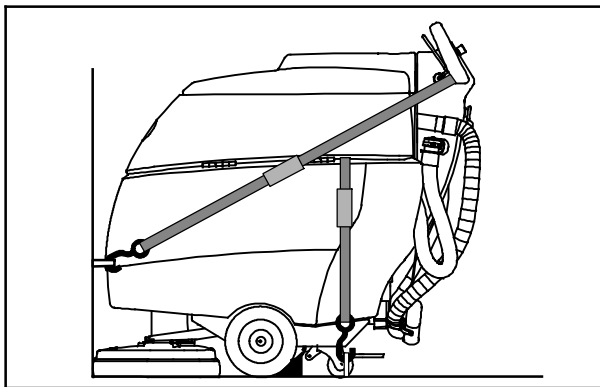

FIG. 57
6. Secure with tie-down straps as shown (Figure 57). It may be necessary to install tie-down brackets to trailer or truck.